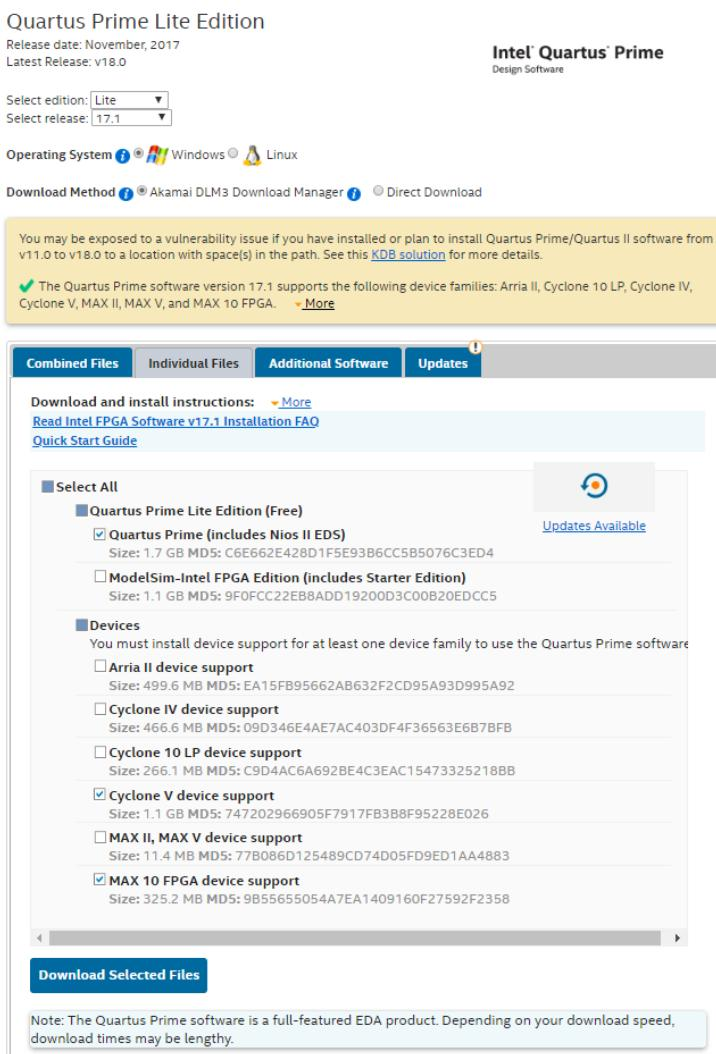

Figure 1: Quartus Prime Lite Minimum Required Files to Download
- For the smallest installation and quickest download time, select only the fields shown below in Figure 1.